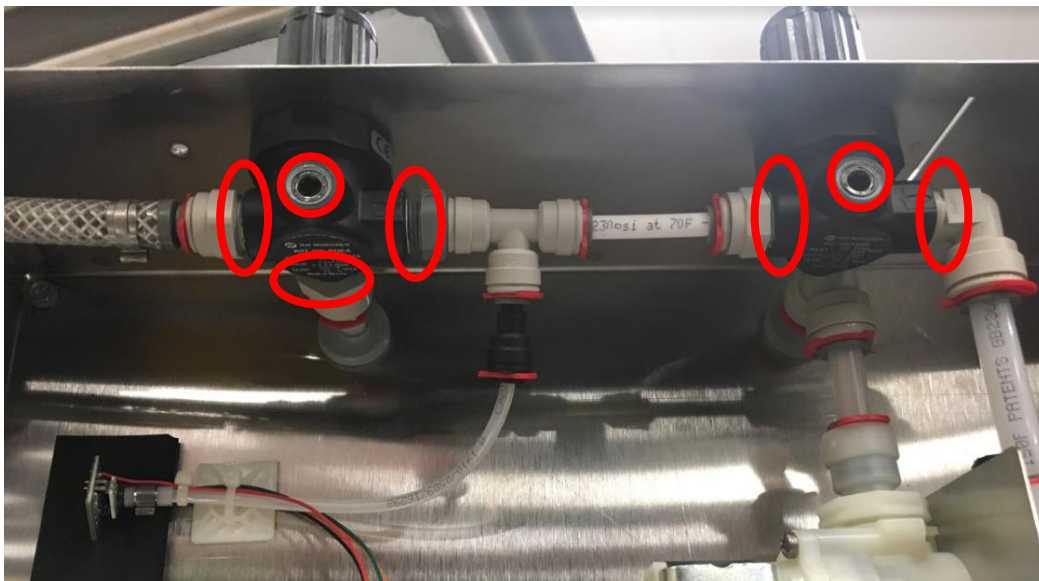

Figure 48: *Regulator Assembly (JT-16500) showing Spray locations.*
- i. Leak from threaded fittings Pressure Regulator: Remove the Pressure Regulator and replace the fitting. Apply 3-layers of Teflon tape in clockwise direction and tighten the fitting to proper torque setting. Refer to **Appendix B: John Guest Torque Settings** for proper Torque Setting. **See Figure 48.** Wipe all connections checked with Soap Water once test is complete.